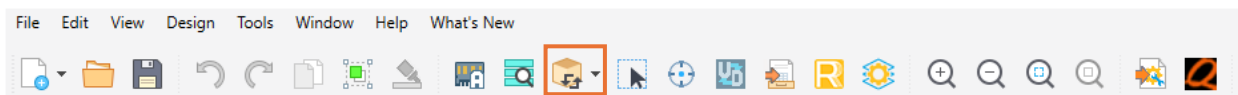

Figure 5.5. Generate in Lattice Propel Builder Design
6. To generate the design, go to **Design > Generate** or click the **Generate** icon (as shown in Figure 5.5).